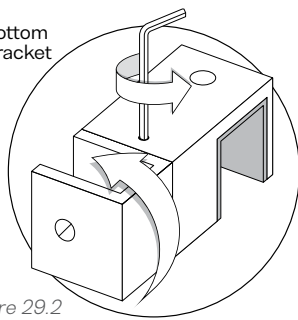

Figure 29.2
- Loosen the hex screw on the bottom of the Floor Bracket (**M.**). Rotate the fixed panel clip end to fit the Fixed Panel (**A.**) for left or right-side installation. Re-tighten hex screw after completing adjustment (Fig. 29.2).